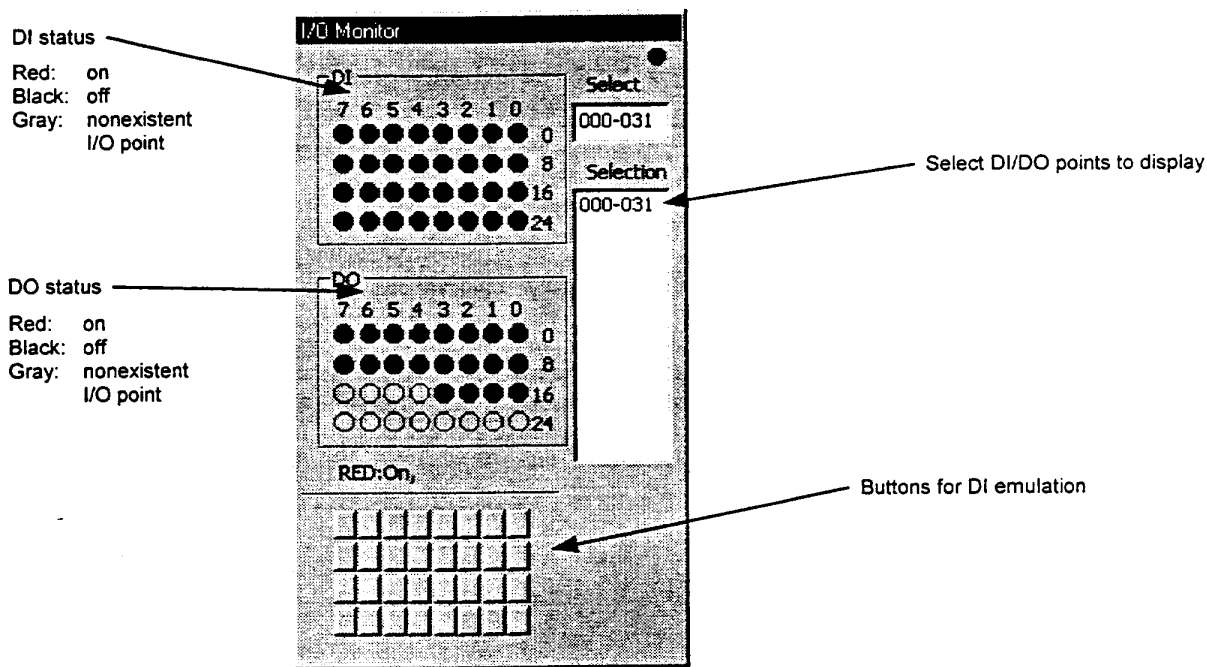

Figure 7.11 "I/O Monitor" dialog box
(2) I/O monitor
In the "Terminal" menu, click "I/O Monitor (I)" under "Monitor" to display the "I/O Monitor" dialog box (see Figure 7.11).